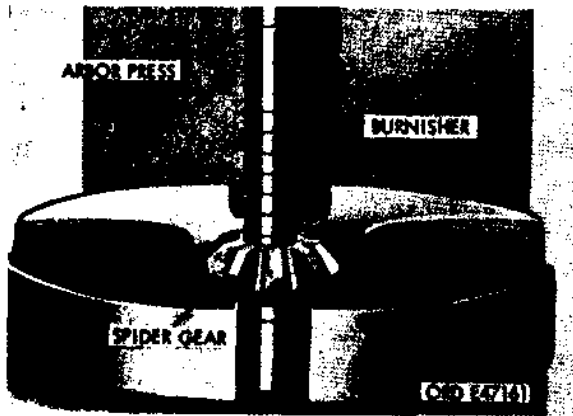

Figure 371. Burnishing differential spider gear bearing
- (a) Spider gear bearing (bushing type) replacement. Press old spider gear bearing (bushing type) from spider gear. Carefully press new bearing into gear. Burnish bearing as shown (fig. 371) with burnisher,